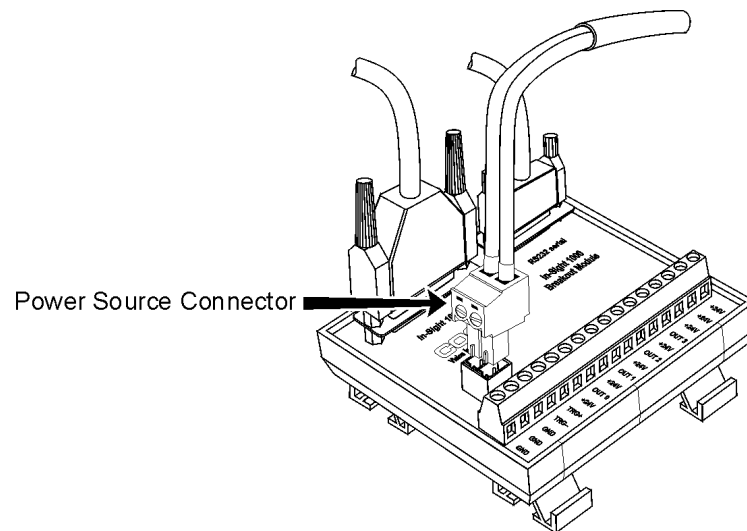

Figure 11. Connecting 24 VDC Leads to the 2-Pin Terminal Block
5. Connect 24 VDC leads to the 2-pin Terminal block (Figure 11).